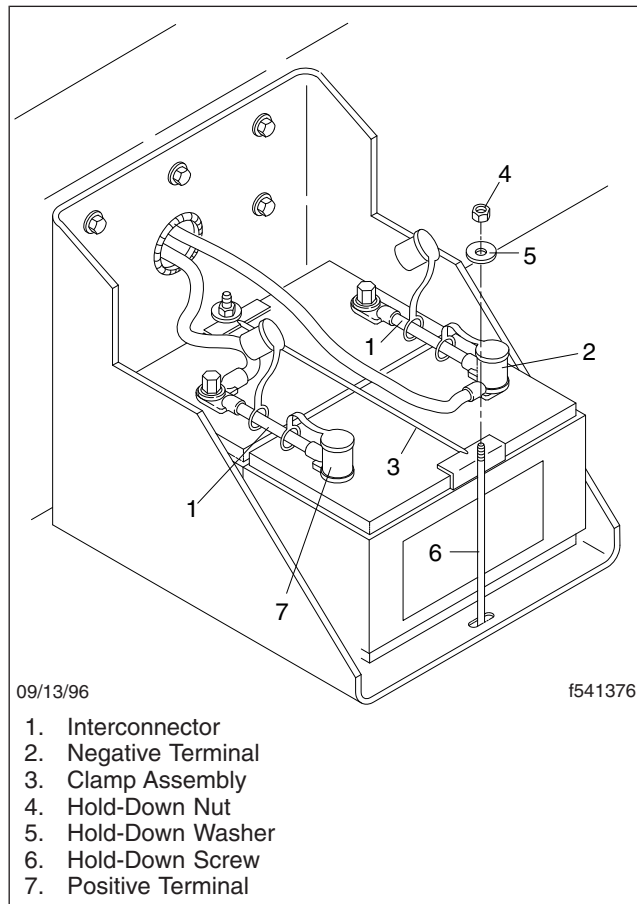

Fig. 2, uStart Battery
6. Remove the battery hold-down fasteners and clamp assembly; then remove the uSTART from the battery box and set aside. See Fig. 2.
2. Install the battery clamp assembly, and tighten the hold-down fasteners to 9 to 12 lbf-ft (1224 to 1632 N-cm). See Fig. 2.